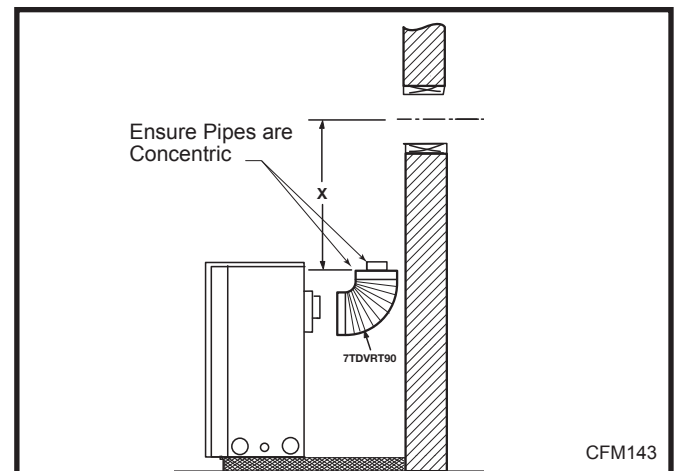

Fig. 27 Apply sealant to inner and outer pipe.
Attach the appropriate venting component(s) to the inner and outer flue collars of the fireplace using three (3) screws. (Fig. 27) Follow with the installation of the inner and outer elbow. Again secure joints with three (3) sheet metal screws.